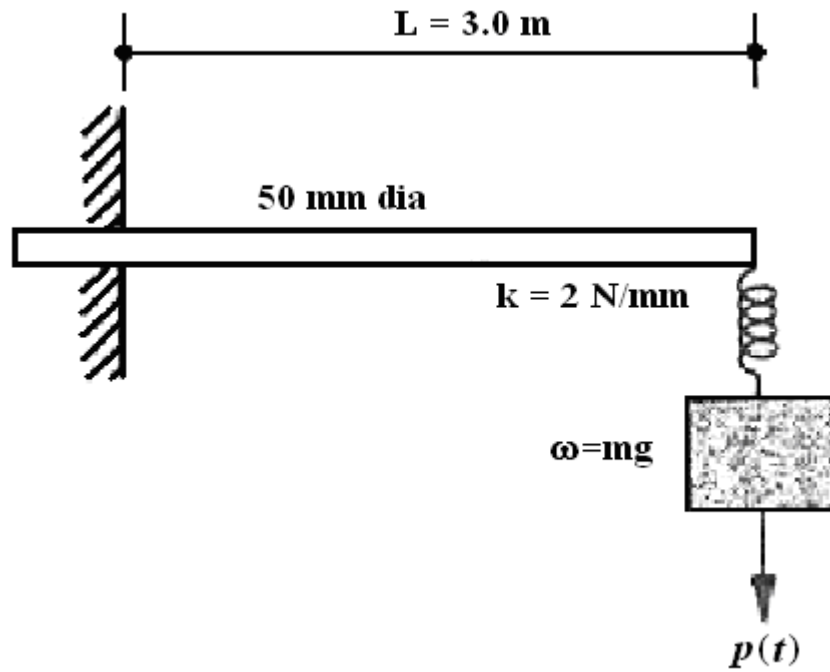

Figure 8:
2. Derive the equation of motion of the weight ω suspended from a spring at the free end of a cantilever steel beam shown in figure 8. For steel, $E = 2 \times 10^5$ MPa Neglect the mass of the beam and spring. [16]